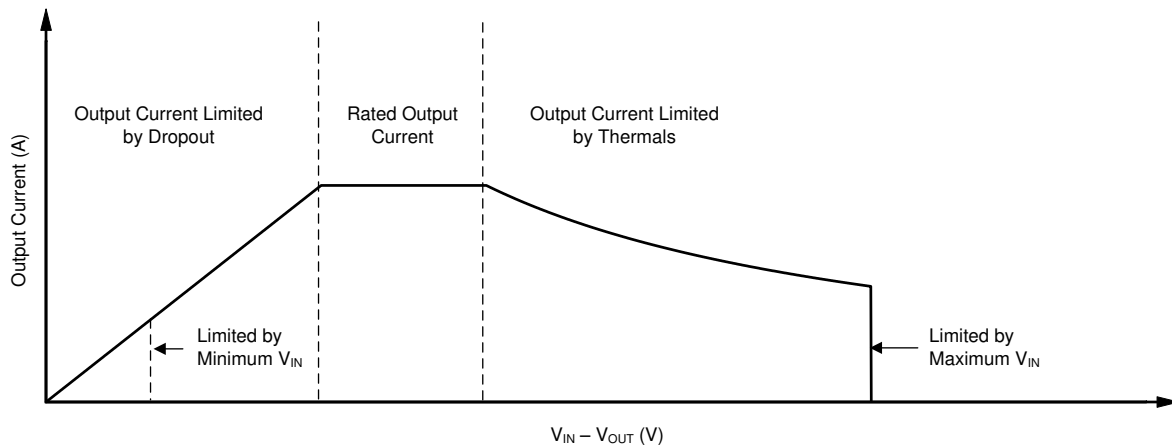

图 8-3. Continuous Operation Diagram With Description of Regions
The operational area of an LDO is limited by the dropout voltage, output current, junction temperature, and input voltage. The recommended area for continuous operation for a linear regulator is illustrated in 图 8-3 and can be separated into the following regions:
- 图 8-3 provides the shape of the slope. The slope is nonlinear because the maximum rated junction temperature of the LDO is controlled by the power dissipation across the LDO; thus, when $V_{IN} - V_{OUT}$ increases the output current must decrease.